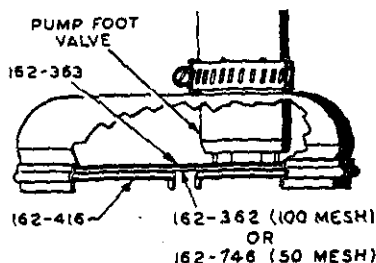

FIG. 3
6. Check the position of foot valve feet in relation to the perforated plate 162-363 of pump fluid intake strainer. When the plate and screen are held in position by the retaining ring 162-416, the feet of foot valve body must contact and support the perforated plate 162-363 as shown in Fig. 3.
NOTE: If desired, the 100 mesh screen in strainer 205-306 can be removed and replaced with the extra, more coarse 50 mesh screen 162-746 supplied. Refer to Fig. 3. This 50 mesh screen
6. Daily, remove and clean screen in pump material intake strainer 205-306. When replacing, check to be sure that plate 162-363 is in contact with feet of pump foot valve. Refer to Fig. 3.